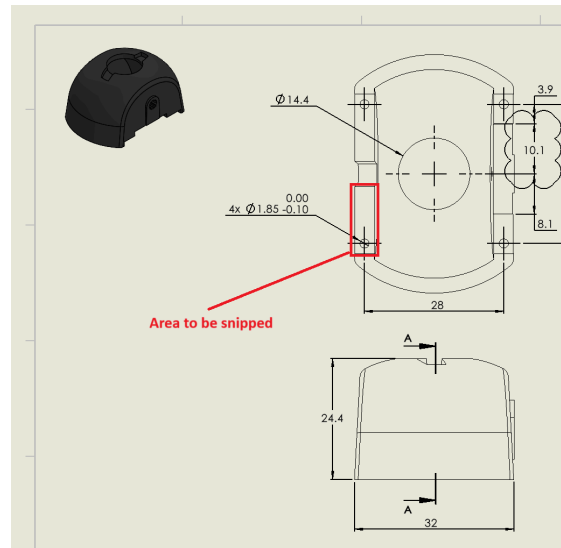
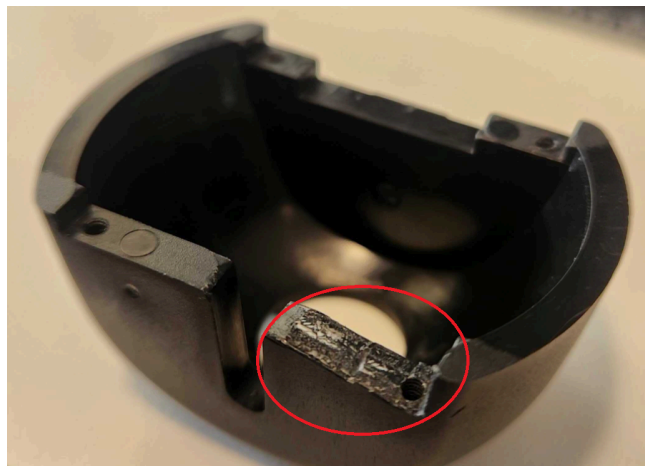

Figure 6: Area to be clipped highlighted on drawing
Figure 7: Camera mount after clipping
5. Clip at least 1-2 mm of material from the surface shown in Figure 6 to achieve the result shown in Figure 7, then fasten the camera into the mount with the remaining three fasteners.